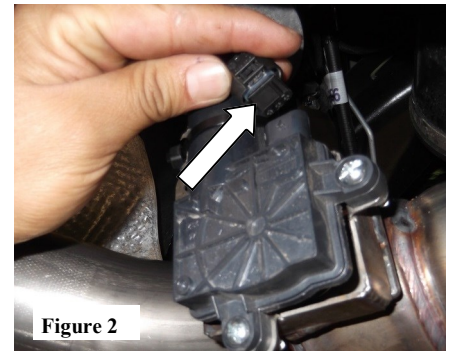

Figure 2
3. Unclip wire harnesses from the left and right actuators on the factory exhaust. (See Fig. 2)